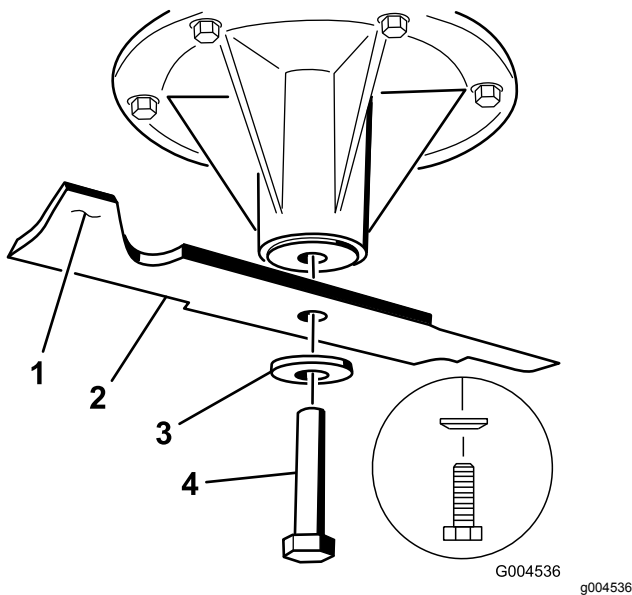

Figure 99
- Install the blade onto the spindle shaft (Figure 99).
- Install the spring disk and blade bolt (Figure 99).